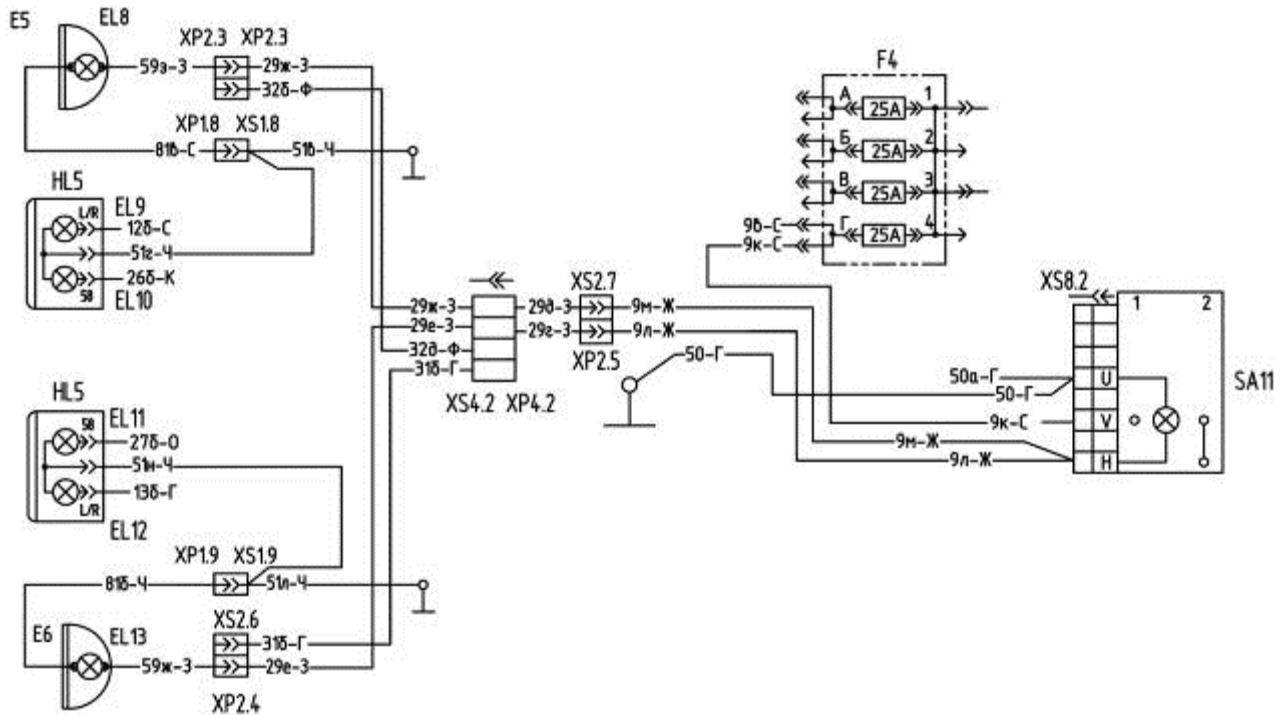

Figure A.2 – Electric circuit diagram of connections for additional front headlights
Figure A.2 presents the electric circuit diagram of connections for additional front headlights installed on brackets of front lights.
To Figure A.2:
**Note** – Other items of the diagram in Figure A.2. are listed in Table A.1.